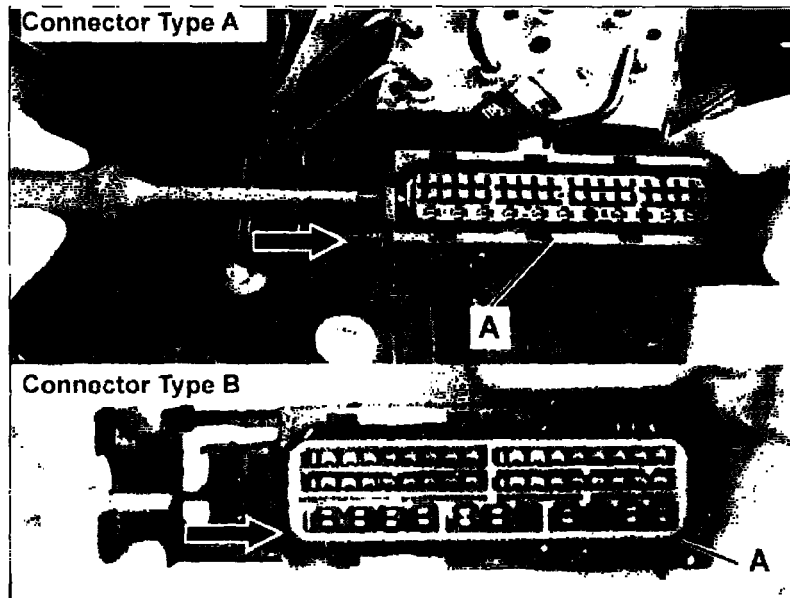

Figure 10
11. Close the (gray) secondary lock of the SBC connector housing (A, Figure 10) by sliding the lock in the direction indicated by the arrows (Figure 10) using a small screwdriver until it locks into place.